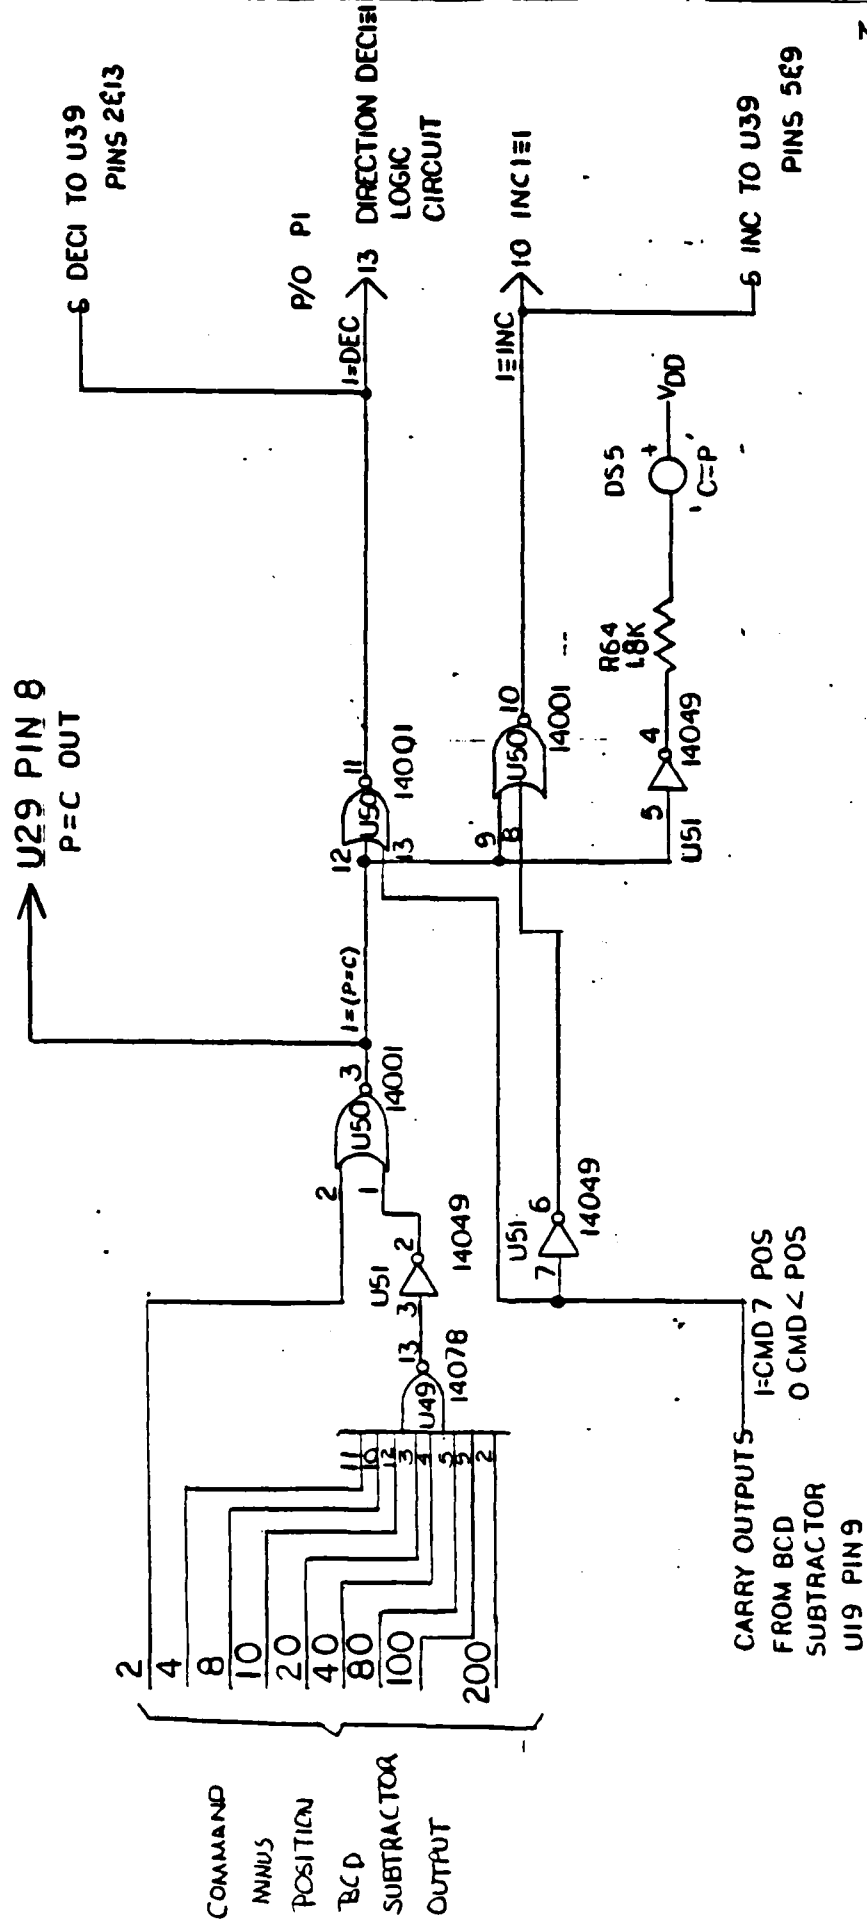

FIGURE 26 DIRECTION LOGIC CIRCUIT
b. The Direction Logic Circuit schematic is shown in Figure 26.